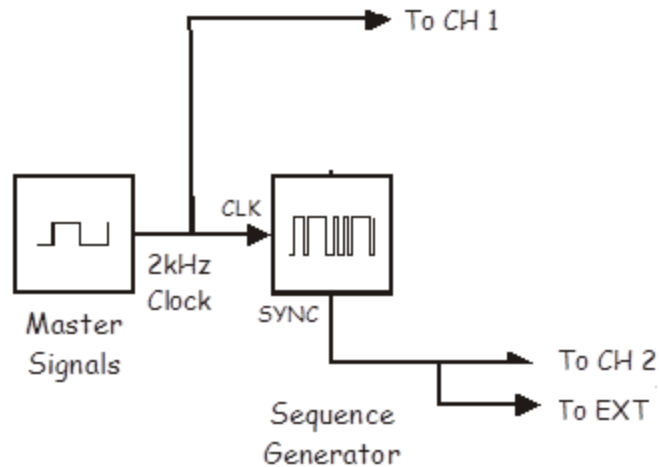

Figure 1: Generation of Random Bit Sequence
- First, let us observe the SYNC sequence, generated from the sequence generator module. Connect the circuit as in Figure 1.